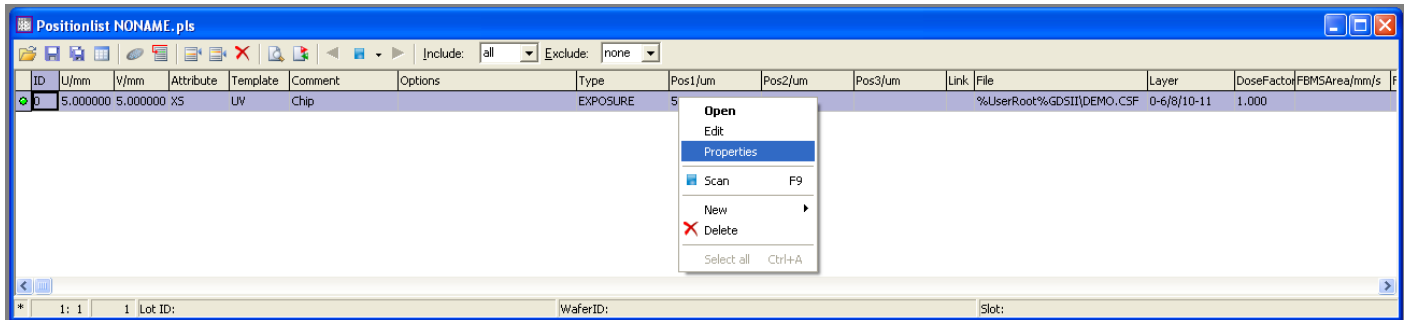
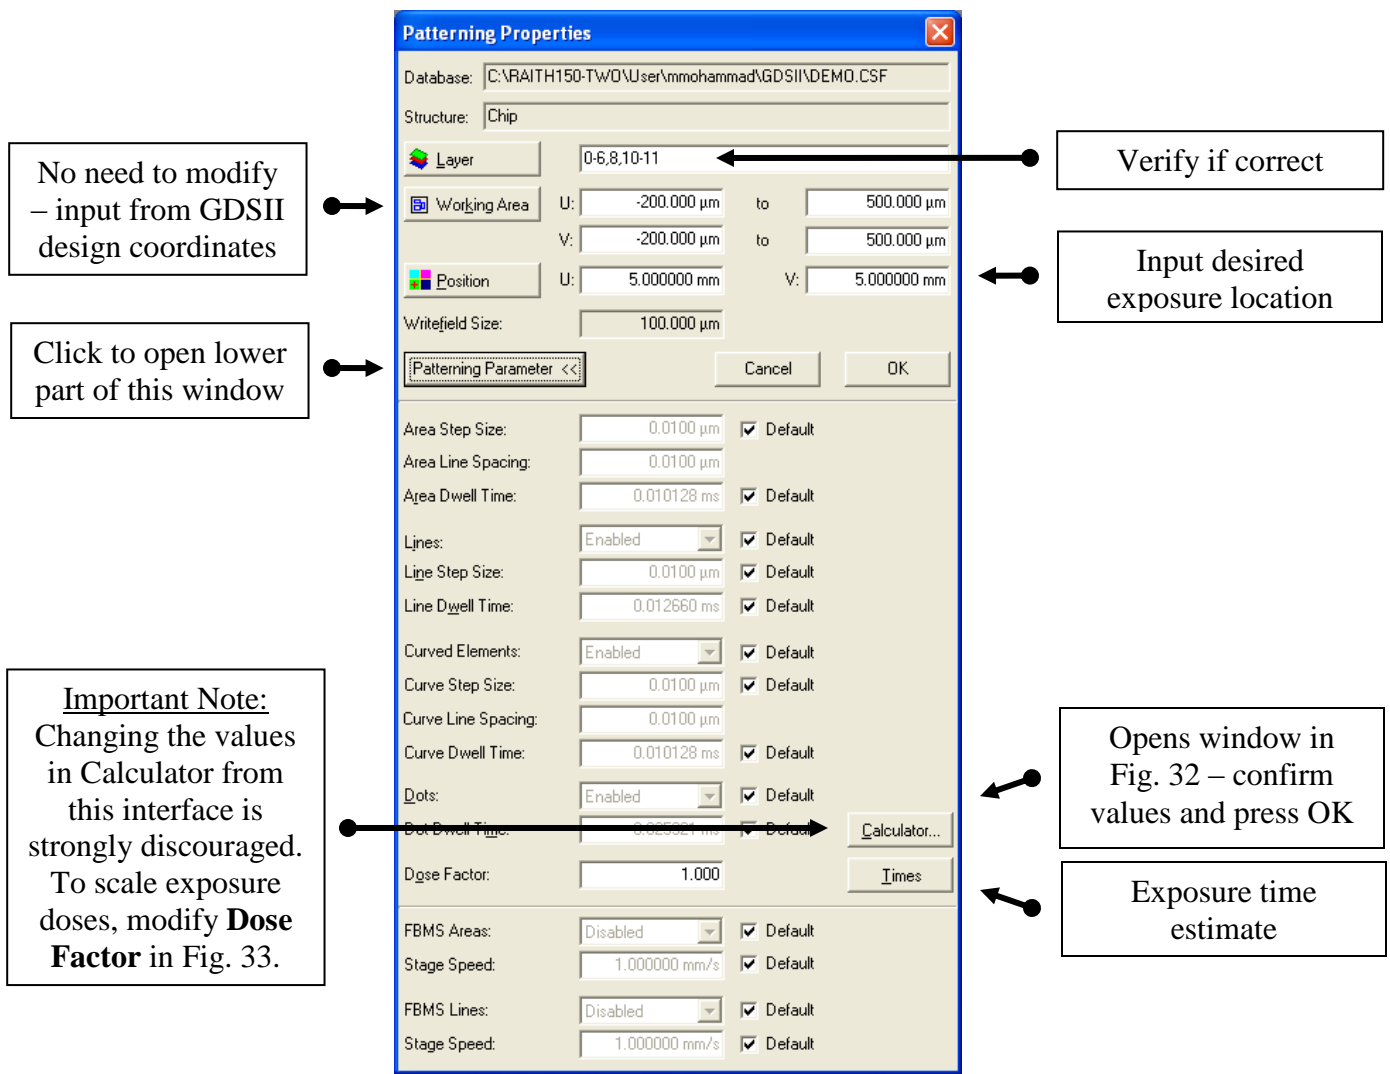

Figure 33 Positionlist setup for exposure
Figure 34 Patterning properties window
32. In the Raith software, click on **File >> New Positionlist**. A window will pop-up (Fig. 33) in the Raith software. Drag and drop your design (.csf) files from the **Design** menu (**GDSII Database** window) into the positionlist. You may input multiple designs in the positionlist. **Right click** anywhere on the inserted file information bar and click **Properties**. A window (Fig. 34) will pop-up. Insert values as shown.
34. To begin exposure, enable the Raith software, click **Scan >> All** in the top level menu. Alternatively, enable the positionlist, **right click** on the file information bar (Fig. 33) and click **Scan**. A window will pop-up which will show the exposure progress to the user. Once the exposure is complete, this window will disappear.